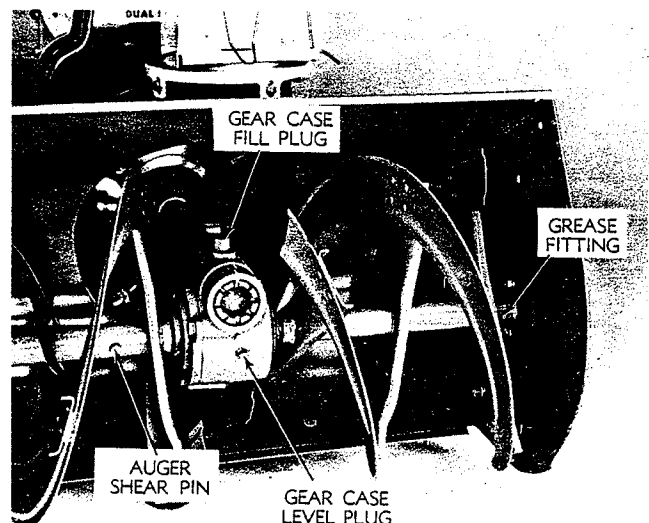

FIG. 9
- A. Drive Gears — One fitting on left side behind wheel. (Fig. 9). Give this fitting about 10 shots of grease.
- B. Auger bearing support — two fittings, one on each end of auger shaft. (Fig. 9). Grease until the grease comes out of bearings. Wipe off excess grease. Grease with pressure type gun.
3. Gear case — Although the gear case is filled at the factory, be sure to check level before first use each season and periodically during the season. Keep it full to bottom of level plug hole with SAE 30 oil. Remove vent plug to fill. (Fig 9).
If you should happen to shear this pin, there are 2 extra pins in the parts bag that came with your Snow Thrower. (Fig. 9). Do not use a substitute for shear pins.